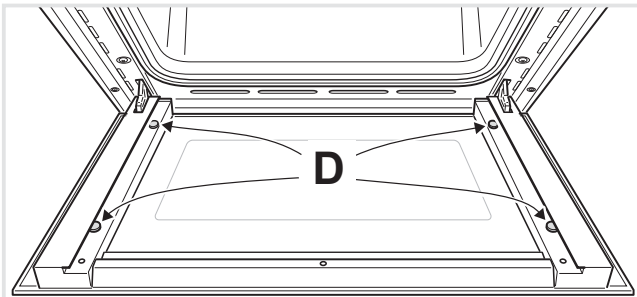

Figure 40
- Check that the four rubber pads are in place ("D" in Fig. 40).